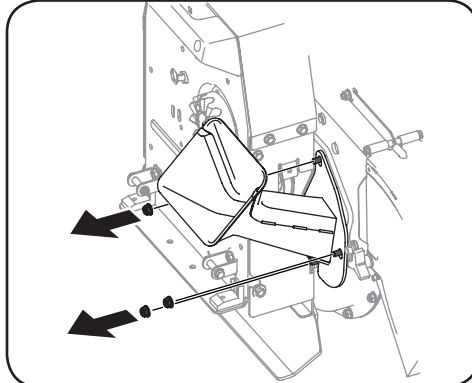
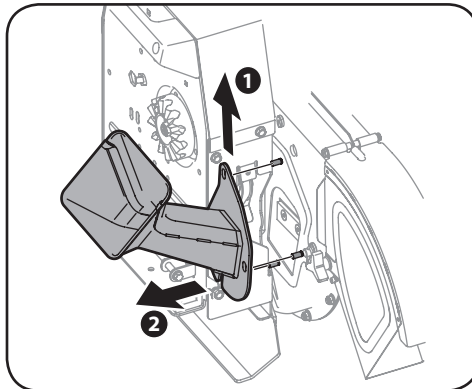

Figure 5-9
Figure 5-10
9. Remove the chipper chute by removing three hex nuts which secure it to the impeller housing. See Figure 5-9 & Figure 5-10.